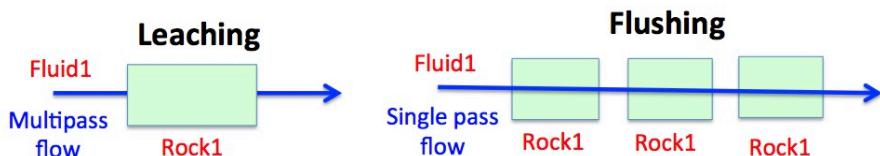

Figure 4.1: Conceptual models showing the two Process simulation types Leaching and Flushing in the single flow-through reactor (R) mode.
A multi-pass model consists of consecutive batches of fresh (unreacted) greisen fluids (Fluid 1) reacting with a leucogranite (Rock 1) to simulate the alteration mineralogy during the formation of a hydrothermal quartz vein and alteration halo in the granite. This model can be set up using the R mode in **Process** simulation and choosing the leaching modeling scenario (Fig. 4.1).
- Create the parent system records in **SysEq** by cloning the two records you already created in Module 3; Greisen_Fl records at 250 and 450 °C and 4 kbar. Rename these system records to “Rock_leach”, and leave all the other parameters. For the input take for now 100 g of fluid and 1000 g of rock using the **Open recipe dialog** (Fig. 4.1). Calculate the equilibrium. Save.
- Switch to **Process** simulation and clone your record built for the titration model in Module 3. Select your parent chemical system equilibria record “Rock_leach” at 450 °C (Figs. 4.1).
- In the next window tick the option “Leaching: Compos source”, select the fluid (Fluid_greisen), then select the rock (R_leucogranite) as illustrated in Figure 4.1. Make sure to follow the exact sequence so the script generated by the wizard will work automatically.
- Plot the results and scale the x- and y-axis to inspect the results, which should look similar to Figure 4.5. Note you can also modify the number of fluid aliquots by varying the number variable as indicated in Figure 4.1, e.g. instead of 200 use 400 aliquots. Do not forget you need to use **Remake** to be able to do this, as in your **Results** tab the program will need to add 200 rows in the table, which cannot be done by only changing the numbers in the “Controls” tab window.
This model can also be set up using the R mode in **Process** simulation and choosing the flushing modeling scenario (Fig. 4.1).